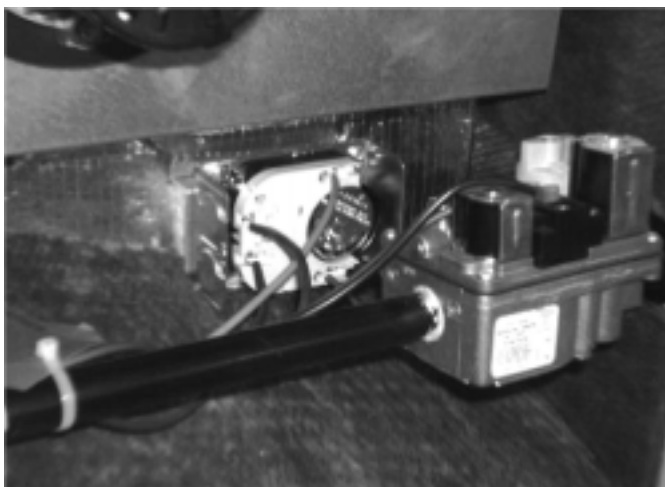

Figure 18
1. Check limit control (Figure 18) operation after 15 minutes of operation by blocking the return air grille(s).